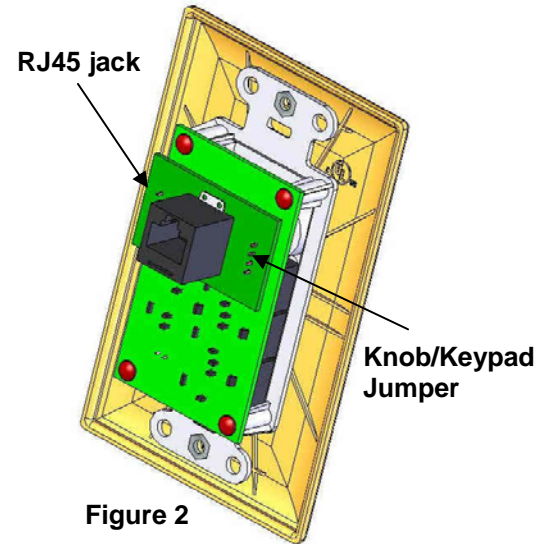

Figure 2
- C. Pull the Category 5 cable out through the low voltage bracket and plug it into the RJ45 Cat 5e jack on the rear of the Flush Mount Single Source Input (see **Figure 2**). Then mount the Flush Mount Single Source Input into the low voltage bracket and cover with a wall plate. There is a jumper on the rear to select Knob or Keypad only volume control use.